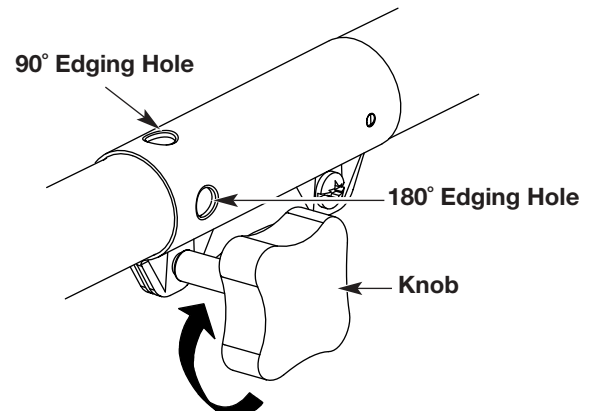

Fig. 8
3. Turn the knob clockwise to tighten (Fig. 8).
For edging when using the line head cutting attachment with EZ-Link™ models, lock the release button of the cutting attachment into the 90° edging hole or the 180° edging hole (Fig. 8).